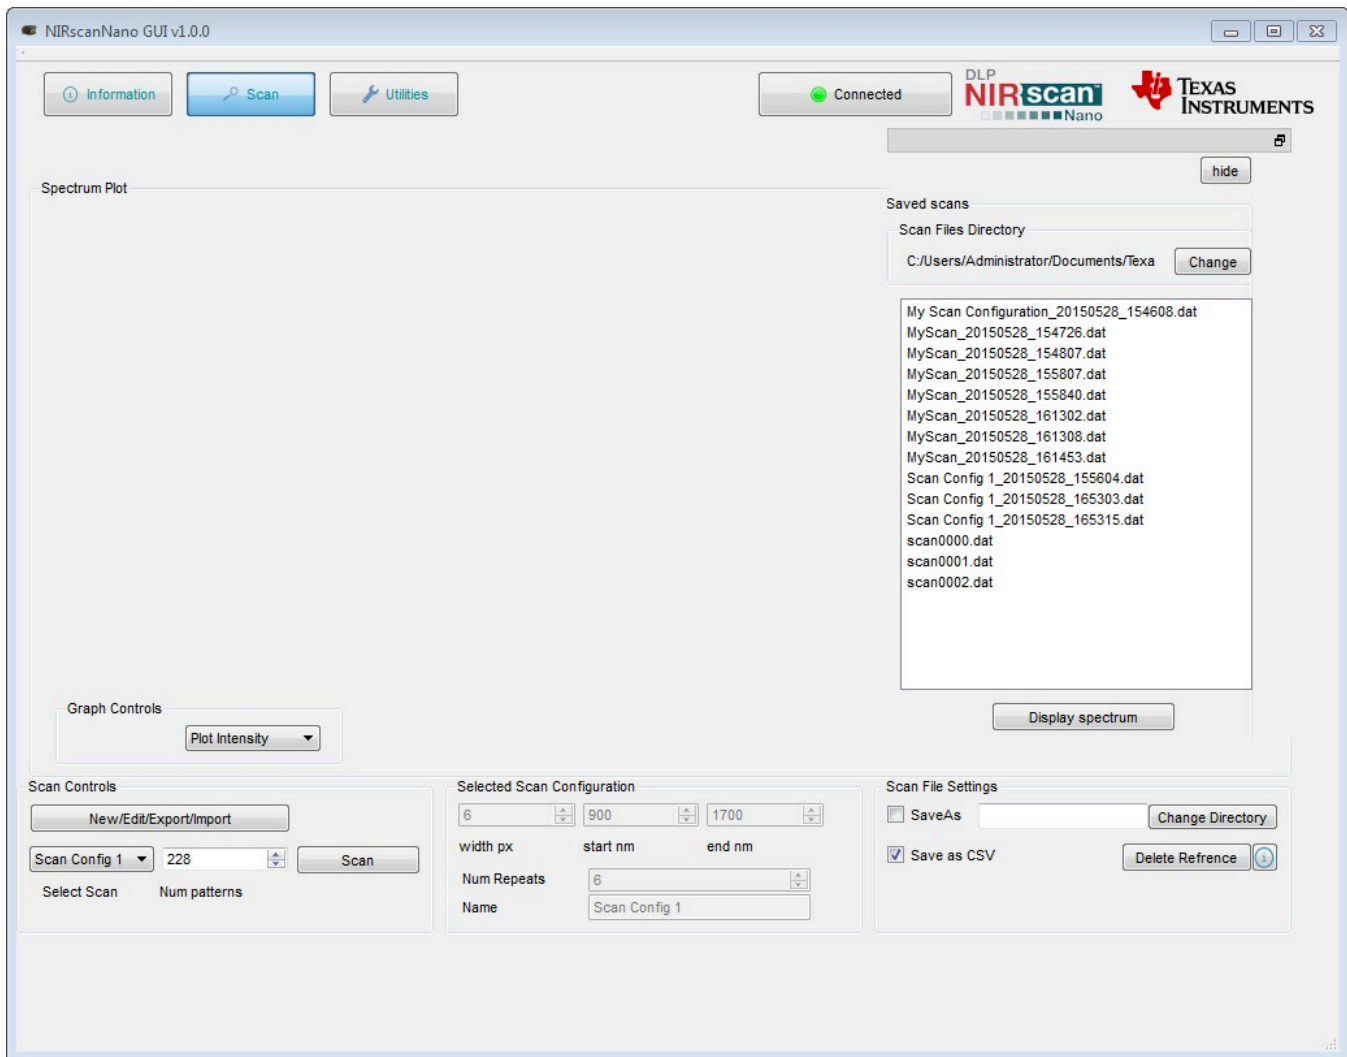

Figure 3-8. 3 Scans Transferred from microSD Card
- On the Scan tab, click the Scans button in the upper-right corner to display the previous scans. Scans transferred from the microSD card will be listed with filenames starting with "scan" followed by a four digit number, as shown in Figure 3-8.